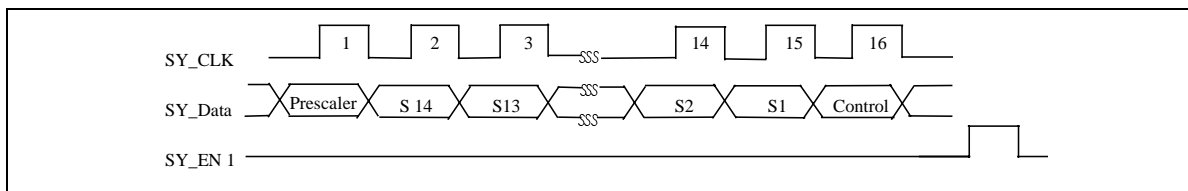
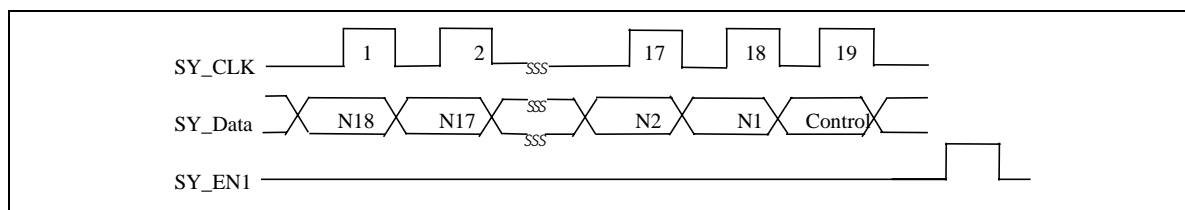

Figure 7 Setting Prescaler and Reference Divider of the Tuning Synthesiser
Figure 8 Setting the Swallow Counter (A) and Programmable Counter (B) of the Tuning Synthesiser
One possible system application shown in Figure 7 uses a dual mixer IC for generation of the L-Band down-conversion Mixer frequency (1251.456 MHz) and the 2nd Mixer Local Oscillator frequency (40.96 MHz). These frequencies are generated from an external reference oscillator (16.384 MHz).
Basic timing chart for tuning synthesiser (LMX 1511 or compatible) is shown in Figure 7 and Figure 8.
Figure 7 shows the setting prescaler and reference divider when Control Bit is set "H". Figure 8 shows the setting the swallow counter (A) and programmable counter (B) when Control bit is set "L". See Appendix A for further details of the synthesiser programming.